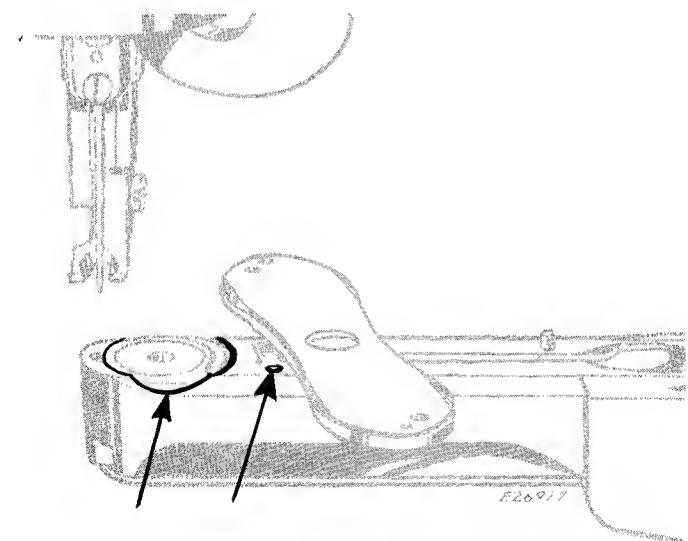
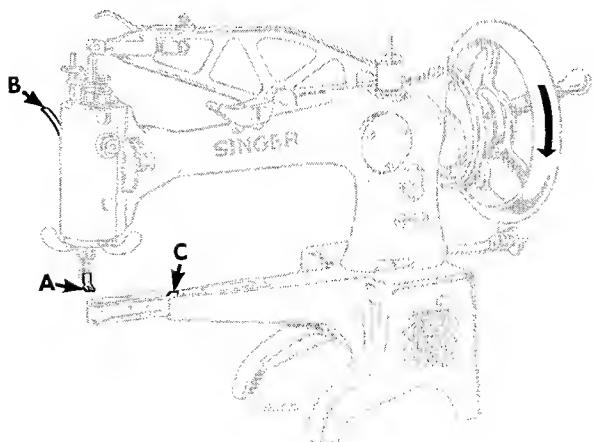
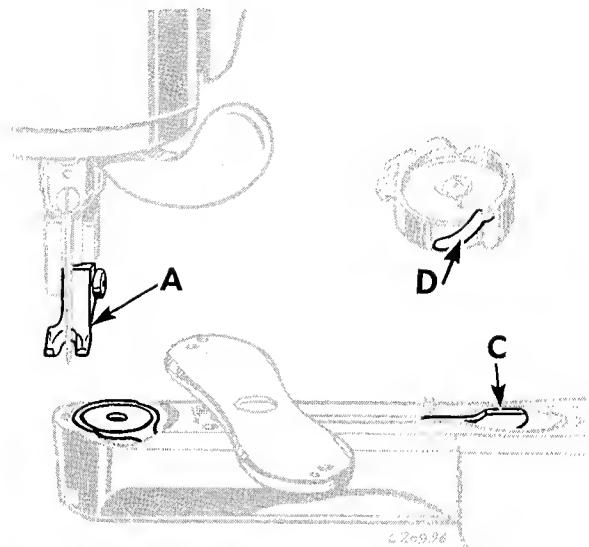

Fig. 4. Oiling Shuttle Race
Fig. 5. Operating Machine
Fig. 7. Taking out the Shuttle
To oil shuttle race, raise needle bar to its highest point and lift feeding foot **A**, Fig. 5 by moving lifter **B** upward.
Press down lever **C**, Fig. 5 and swing needle plate to position shown in Fig. 4.
Apply a drop of oil to the face of shuttle race and to the hole shown by arrow in Fig. 4.
1. Raise feeding foot **A**, **Fig. 5** by moving lifter **B** upward.
Raise needle bar to its highest point and lift feeding foot **A**, Fig. 7 by moving lifter **B**, Fig. 5 upward.
Press down lever **C**, Fig. 7 and swing needle plate around as shown.
NOTE: For 29K72 machine, move bobbin retaining spring **D**, Fig. 7 outward before taking out the bobbin.